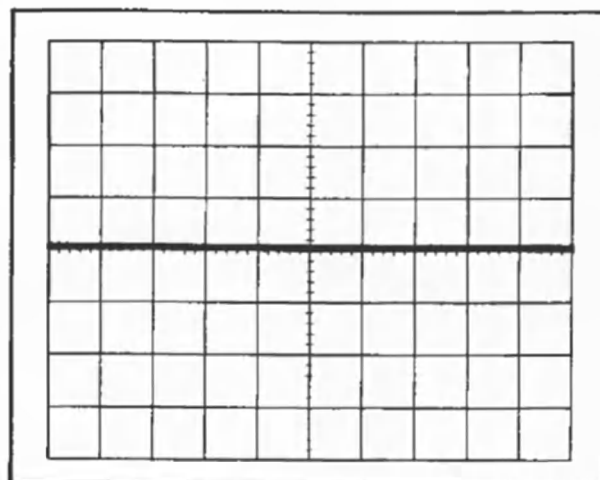

Fig. 6-27. Typical CRT display showing correct common-mode rejection.
- d. CHECK—CRT display 0.1 division or less (common-mode rejection ratio of 100:1 or greater; see Fig. 6-27).